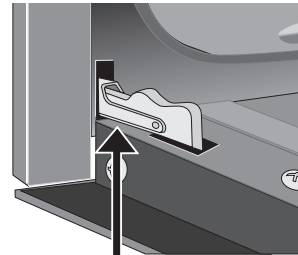
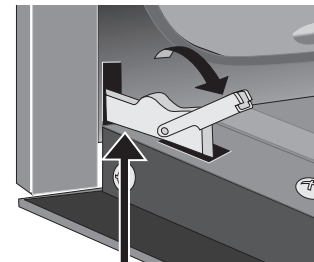

Figure 42: Door hinge locks
Figure 43: Hinge in unlocked position
2. Pull the door hinge locks on both left and right door hinges up from the oven frame completely towards the oven door (See Figure 42). A tool such as a small flat-blade screwdriver may be required to unlock the hinge (Figure 43).
4. Push the door hinge locks up towards and into the oven frame on both left and right oven door hinges to the locked position (See Figure 42).